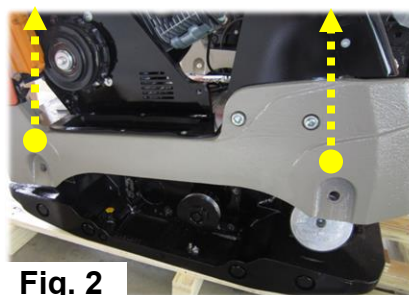

Fig. 2
(B) Perform the following preparations, Ref. Fig. 2 & 3: